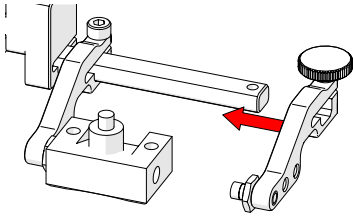

Fig. 4 - Mount wedge
- Place the wedge on the inner probe holder arm's button and clamp in place with the outer probe holder arm (Fig. 4). Tighten the probe holder arm adjustment knob.